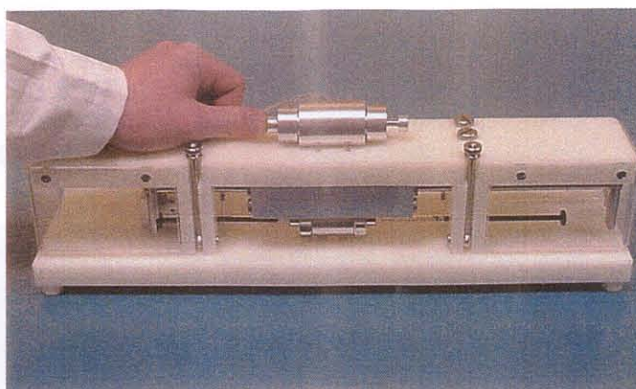

Figure 11: Operate the LiposoFast Pneumatic-Actuator using the push buttons on either side of the control valve.
8.7 Pass the liposome emulsion back and forth through the membrane(s) using the push buttons on either side of the control valve. Usually, 11 to 21 passes are sufficient. (See Figure 11).